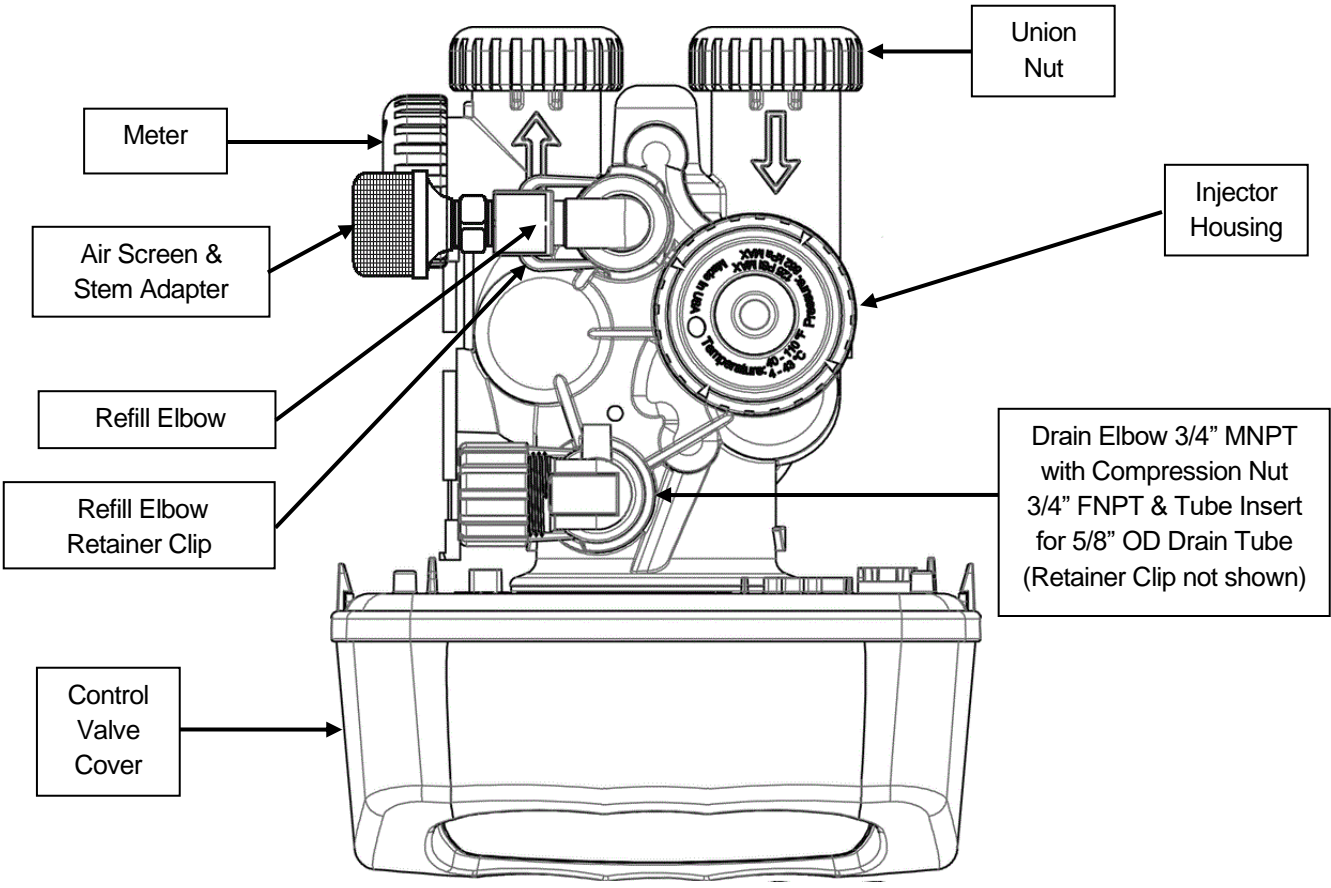

FIGURE 6b: Top View of Control Valve
- STEP 8:** **Apply thread tape to DLFC Assembly.** Remove drain line flow control (DLFC) retainer clip (Figure 6b, Page 7) and remove the DLFC assembly from the valve body, (Figure 6b, Page 7). Apply thread tape to threads. Slide drain fitting compression nut onto provided drain tubing and place the tube insert inside the end of the tubing. Insert tubing end with insert into drain elbow and tighten the compression nut onto the thread taped elbow. Reinsert DLFC assembly into the valve body, making certain it is **FULLY** inserted before replacing the retaining clip.
- STEP 9:** **Install drain line.** Use the provided ½" I.D. polyethylene tubing (**DO NOT USE FLEXIBLE VINYL TUBING!**) to run drain line from control valve DLFC fitting (Figure 6b, Page 7) to floor drain or sump pit capable of handling the backwash rate of the filter (refer to specifications and flow rate on page 17) or discard the compression fitting and use the ¾" NPT fitting to connect a rigid pipe drain line . If backwash flow rate is greater than 7.5 gpm, use existing NPT connector with rigid drain line. There must be an air gap at the end of the drain line to prevent siphoning of wastewater. Length of drain line should be 15' or less. **AVOID OVERHEAD DRAINS.**